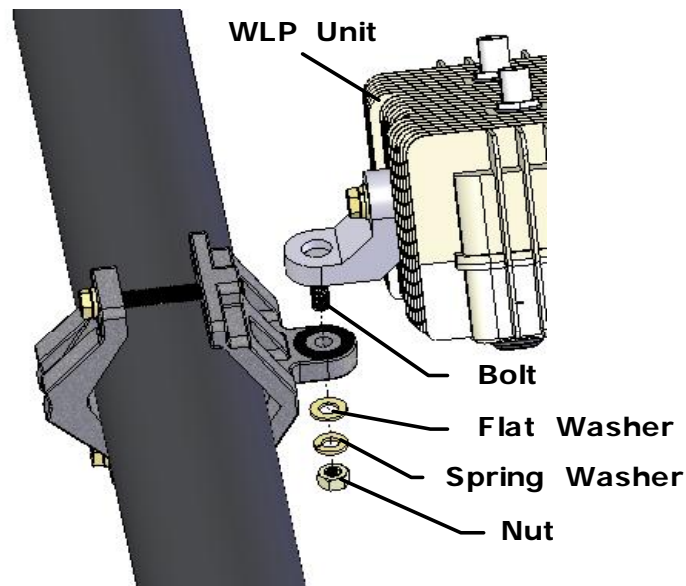

Figure 4: WLP Unit Mounting
1. After assembling the brackets, mount the WLP unit on to the bracket as shown in Figure 4. Use a flat washer [G], a spring washer [H] and a nut [I].